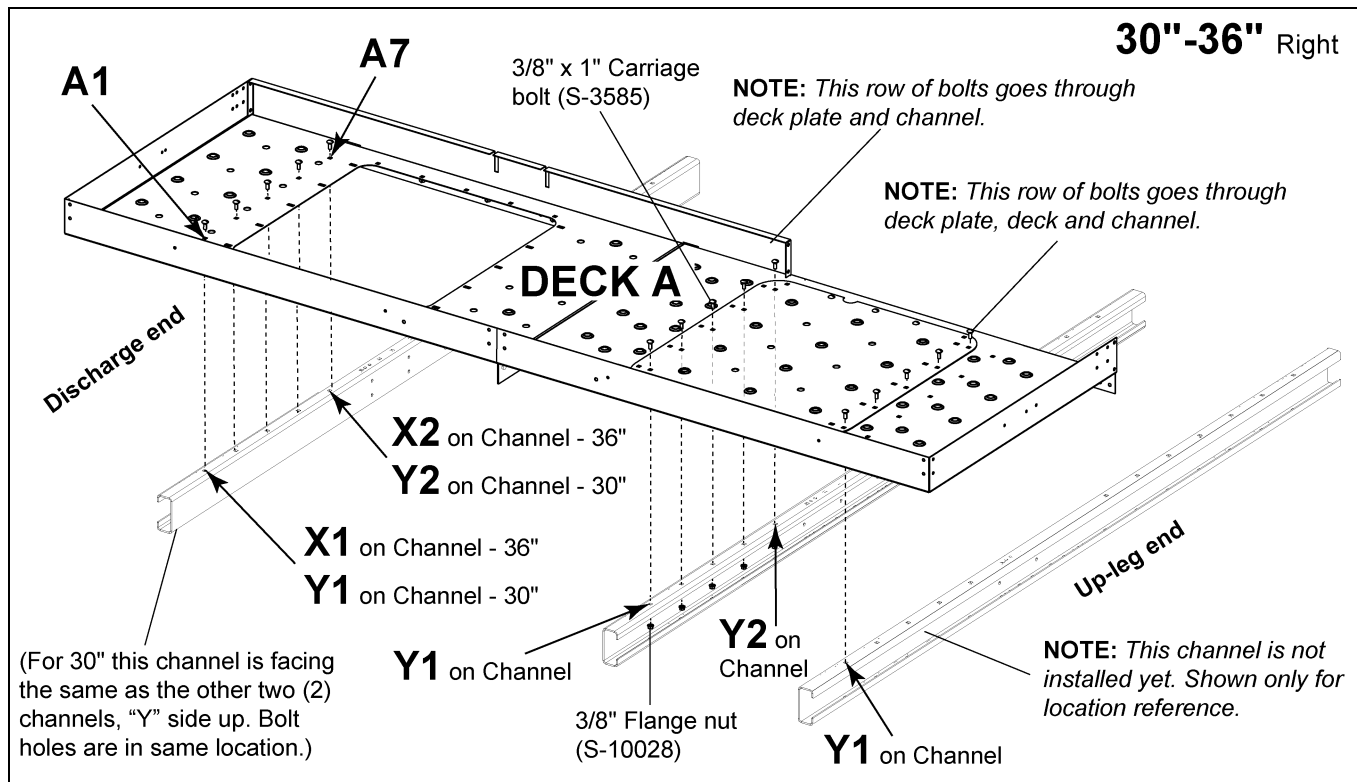

Figure 8H
3. On the **Discharge End**, use a punch as needed to line up. (See Figure 8H.)
- b. At the **hatch side** - channel hole **Y1** on the cross deck support channel to Deck A and deck plate cover. (See Figure 8H on Page 67.)